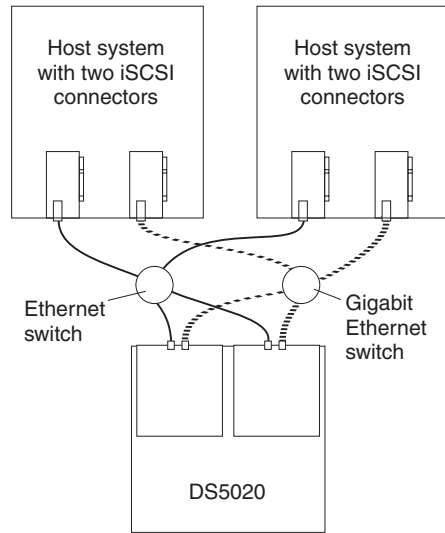

Figure 62. Example of a multiple-host, multiple-port configuration
- Multiple-host, multiple-port configuration, as shown in Figure 62 on page 89
Figure 62 on page 89 shows a multiple-host, multiple-port configuration. For cluster configurations, the following illustration is an example of a multiple-host, multiple-port, and redundant path and controller configuration. You can replace the two gigabit Ethernet switches in the illustration with one large gigabit Ethernet switch that has the required number of ports. Virtual local area network (VLAN) can also be used to isolate the two iSCSI networks, instead of a single switch.